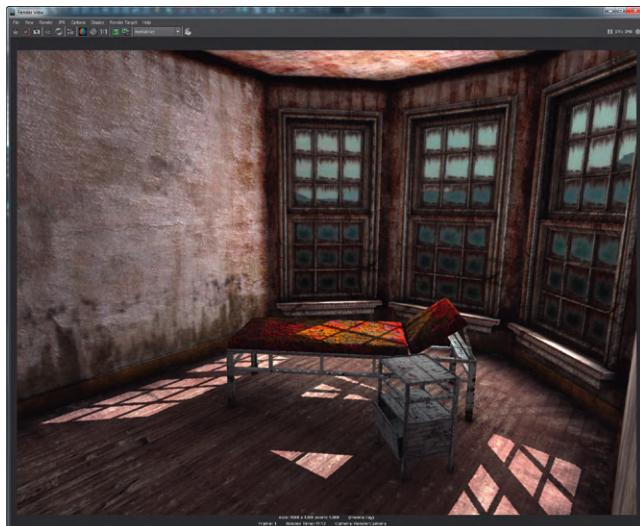

FIG. 7.37 Tweaked scene.
Step 21: Tweak lighting settings or texture settings as desired. I always find that once I get everything in, I need to make some adjustments – tweak a light here, change the color of a texture there, or even swap out entire textures. A few minutes of adjustments can really change the ambiance of a scene (Fig. 7.37).